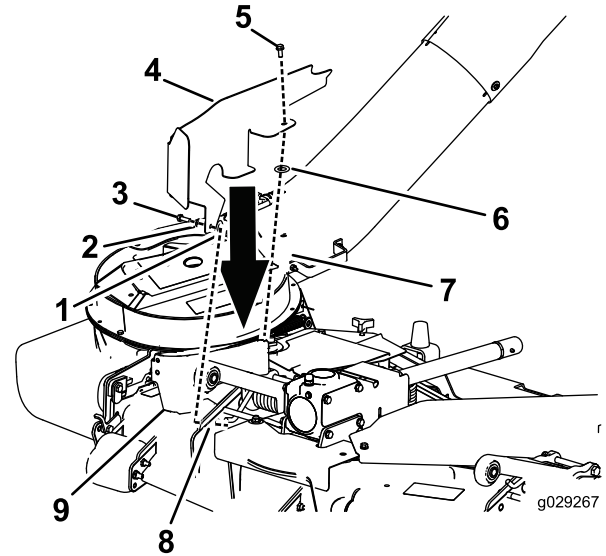

Figure 11
2. **For models with grass collection system:** Install the right shield (Figure 11).